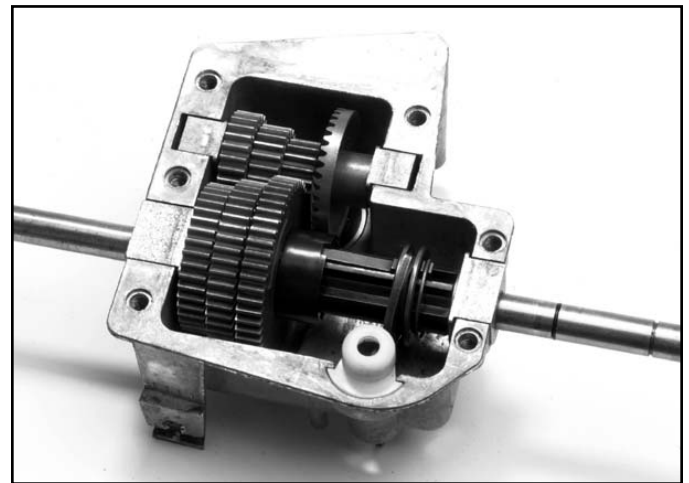

Fig 127
5. Slide the yoke bushing onto the lower end of the shift fork, then secure the shift fork with the white nylon shift fork retainer (Fig. 127).